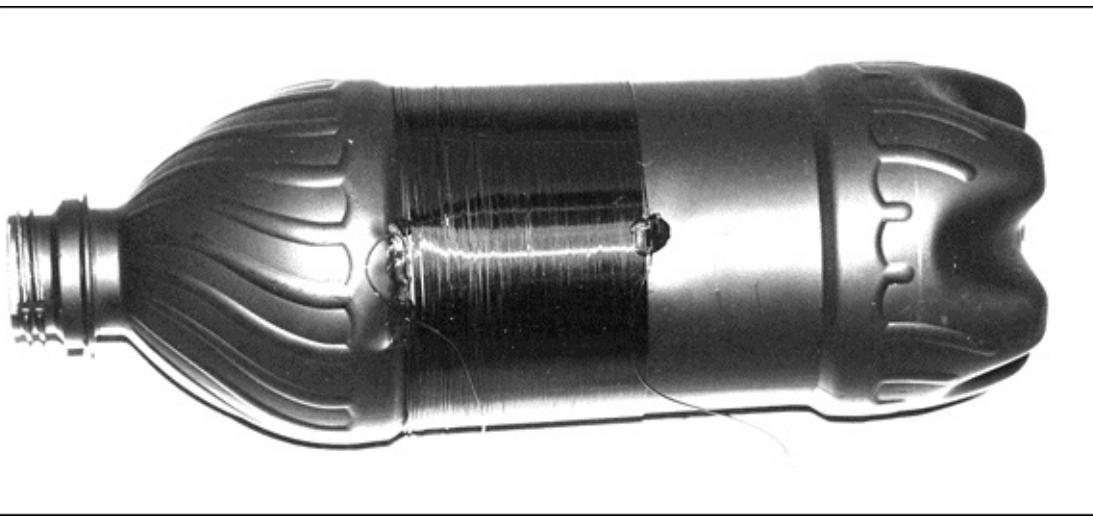

FIGURE 3-10: A coil wound on an empty soda bottle.
- An empty 16-ounce soda bottle. That's what I used for the radio built in this chapter. To make the coil look better, you may first want to spray-paint the bottle with black paint. See Figure 3-10. (Don't use metallic paint!)